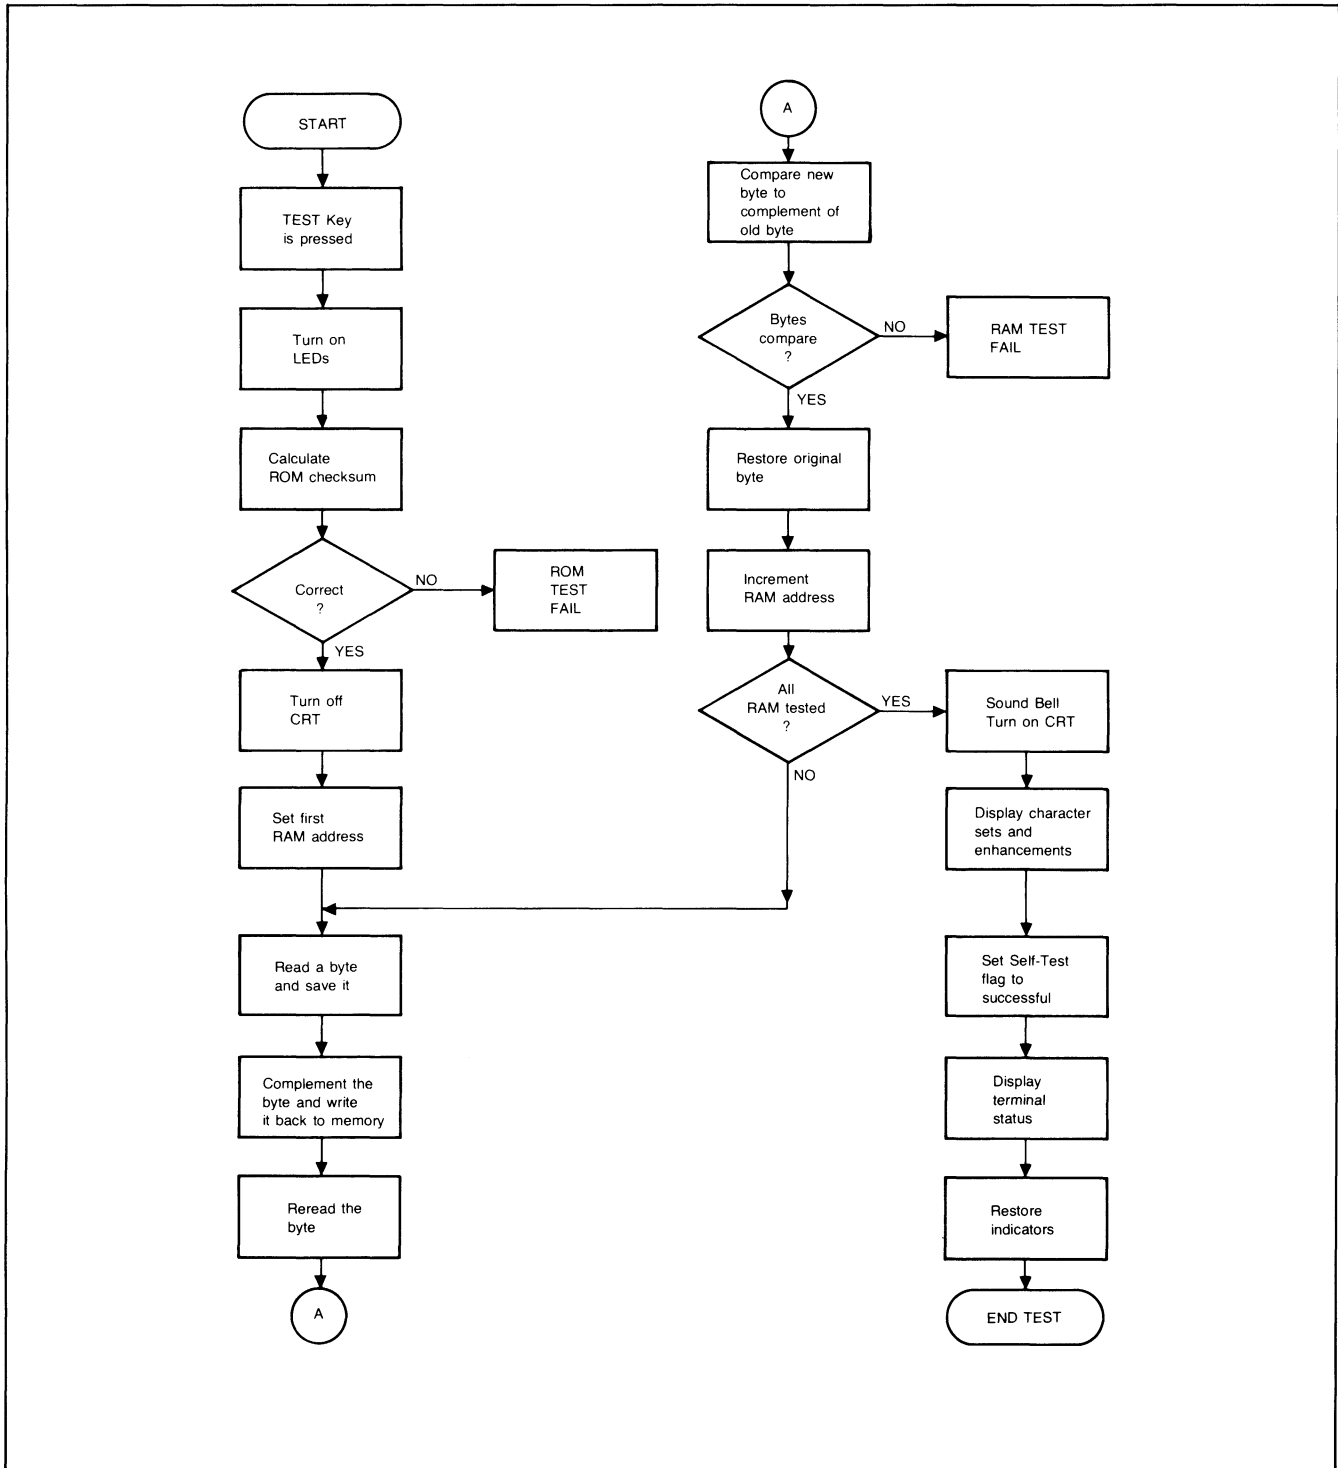

Figure 7-22. Self-Test Flowchart
Pressing checks out the terminal. The following is performed when the key is pressed (also see the flowchart in figure 7-22):
- A checksum test is done on the read-only memory (ROM). This verifies that the firmware is working properly. An error here causes a ROM TEST FAIL message to be displayed. (See flowchart, figure 7-22.)
- A checkerboard test is performed on the random access memory. An error here causes a RAM TEST FAIL message to be displayed. (See flowchart, figure 7-22.)